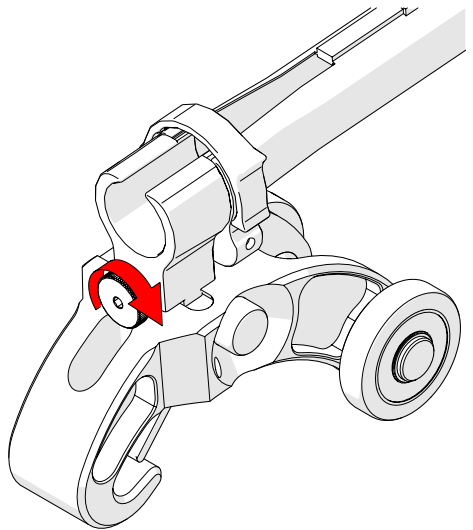

Fig. 177 - Tighten knob
2. Once centred on the dovetail link, tighten the cable management's dovetail mount knob (Fig. 177).